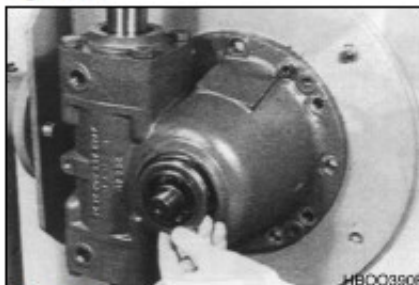

Figure 55
6. Cover outer diameter of shaft seal with sealing compound (Curial T) and install shaft using driver to ensure seal is installed to correct depth. See Figure 55.